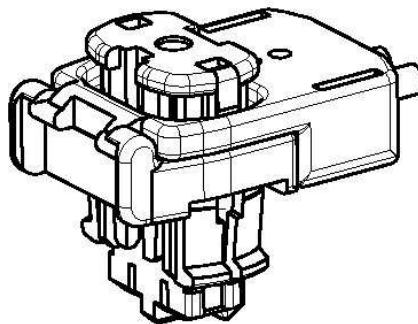

Fig.20
- (3) Check if the locking button is placed on the position like Fig.20